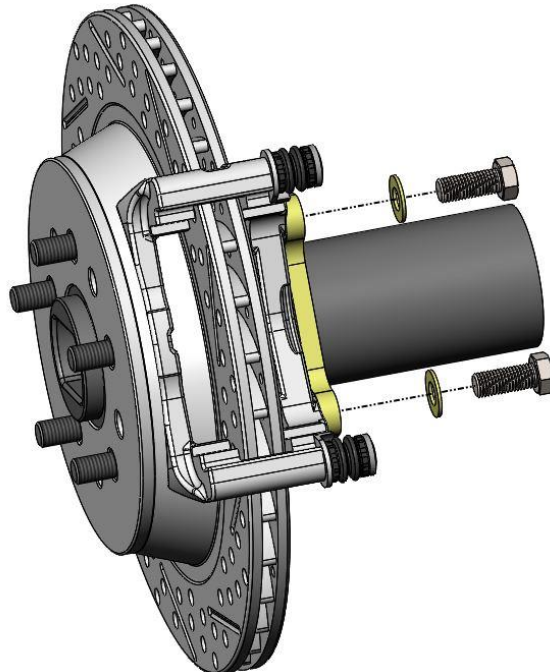

Figure 6 – Caliper Anchor Installed
9. Remove the Caliper Anchor bracket from the caliper by removing the M8-1.25 x 21mm Caliper Mounting Bolts from the Anchor followed by removing the brake pads. Install the caliper anchor over the rotor and position to the Secondary caliper bracket. Using the provided M12 Flat Washers and M12-1.75 x 30mm Hex Head Cap Screws, torque the bolts to 80 lb/ft. Refer to Figure 6 below for reference on installing the caliper anchor.